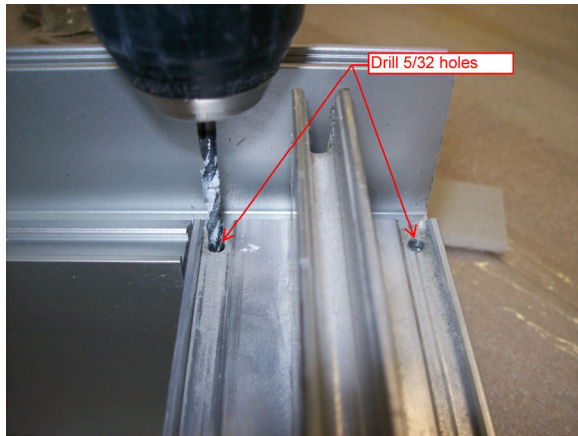
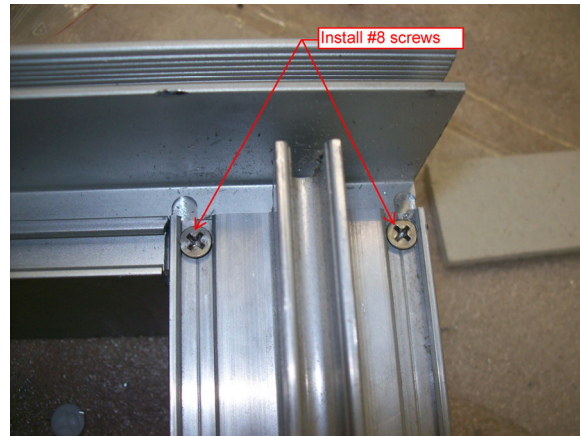

Figure 3
Figure 4
- d. Attach horizontal frame sections to vertical frames by drilling 2 each. 5/32 holes. See figure 3. Install factory supplied screws. - (#8 zinc-coated flat head sheet metal screws.) See figure 4.